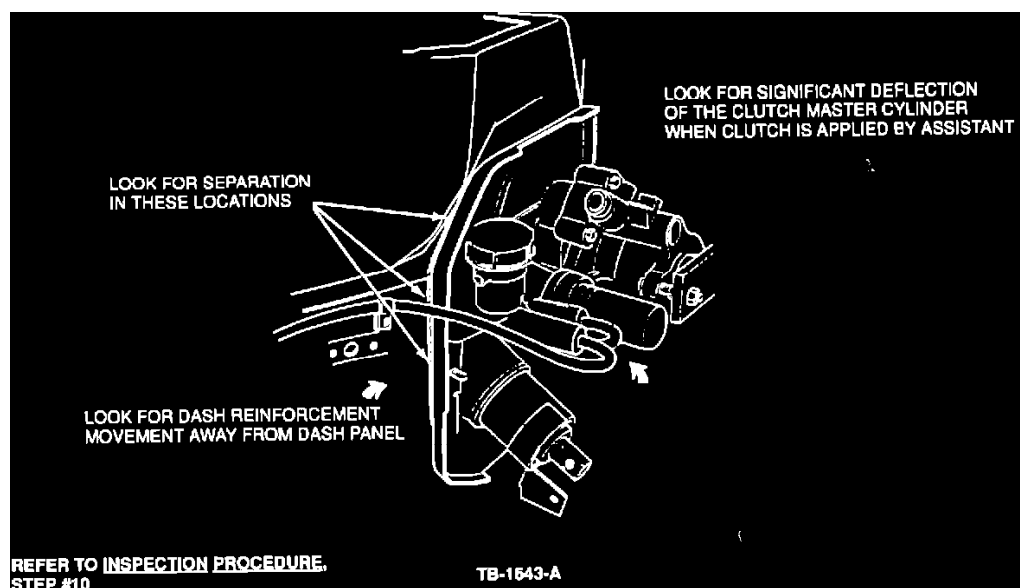

Figure 3
- c. Look for the dash reinforcement moving away from the dash, Figure 3.